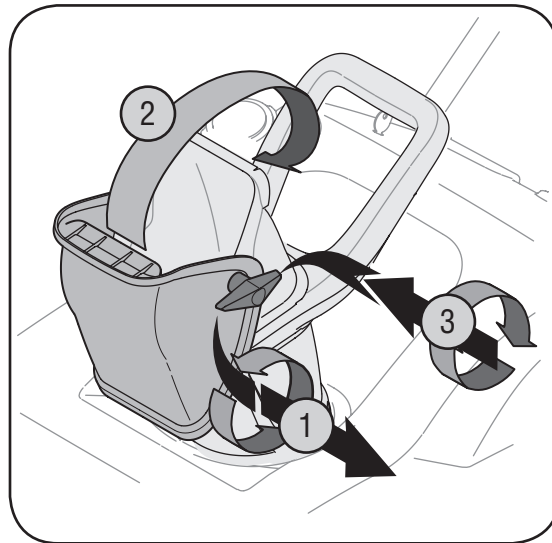

Figure 2
2. Remove the knob and carriage bolt from the lower chute. See Figure 2.